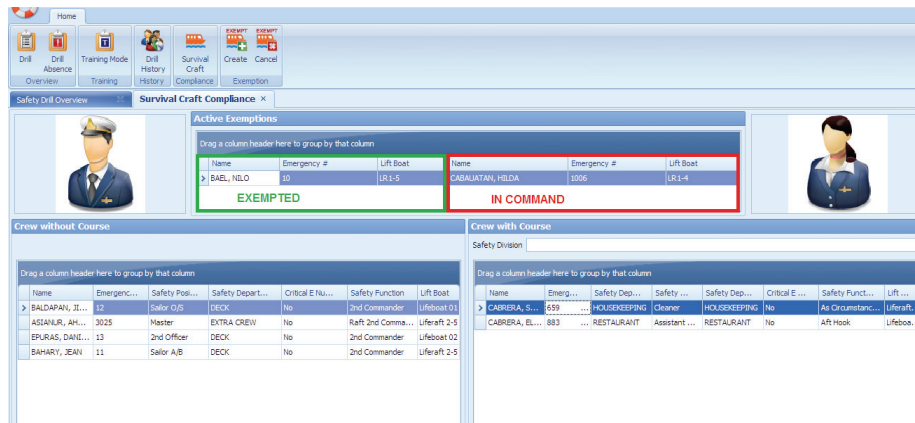

Figure 6-5 - Active Exemption Screen
3. The name of Exempted Crew are now shown in **Active Exemption** as illustrated in Figure 6-5 - Active Exemption Screen.